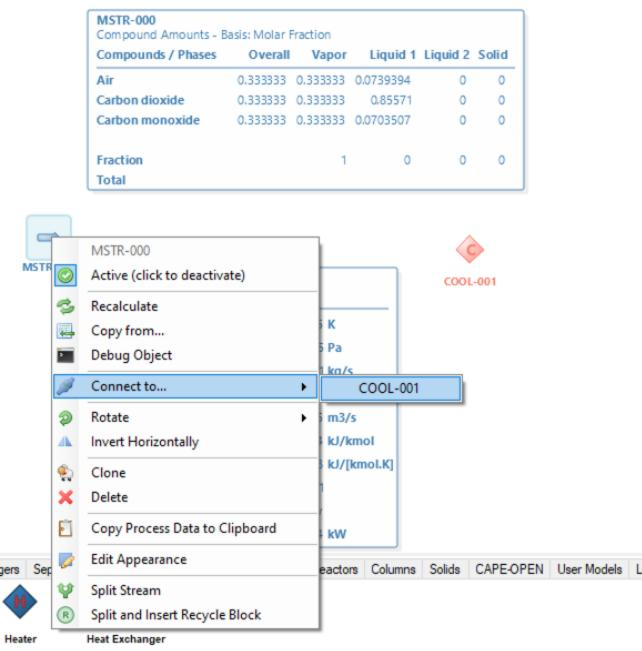

Figure 22: Selected object context menu.
- Through the context menu activated with a right mouse button click over the object (Figure 22);
**Removing objects from the flowsheet** The selected object can be removed from the flowsheet by pressing the DEL keyboard button or by using the context menu - "Delete" item (Figure 22).